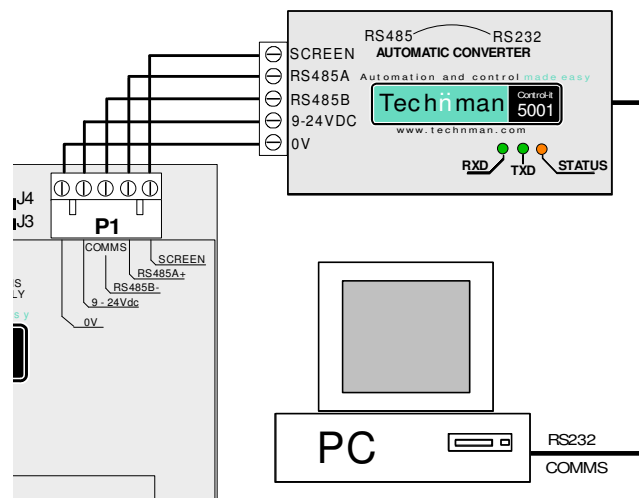

Figure 3 - RS485 connection to the 5001 converter.
2. Connect the module to a **Control-it™ RS232 - 485** converter as per figure 3. (For more, refer to page 22.) Ensure the converter is connected to one of your PC's serial COM ports.